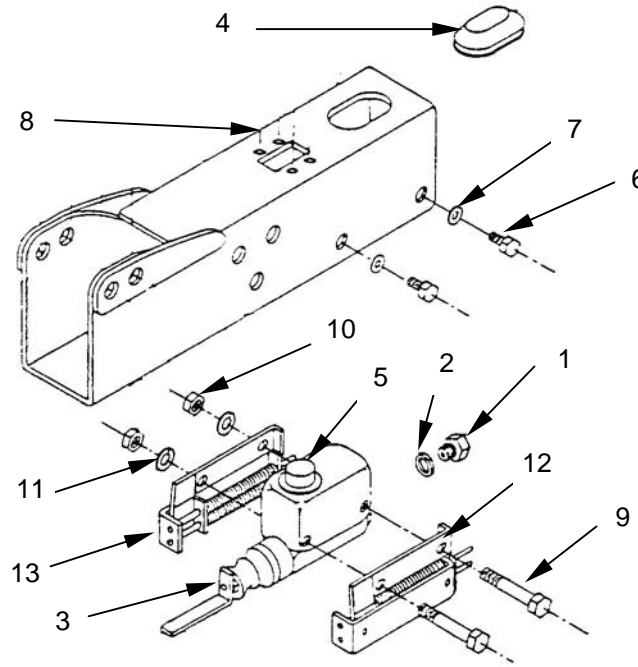

Figure 13. Master Cylinder
- f. Remove cylinder cover (**figure 13, item 4**).
- g. Unscrew cap (**figure 13, item 5**) from master cylinder.
- h. Loosen and remove mounting bolts (**figure 13, item 6**) and lockwashers (**figure 13, item 7**).
- i. Slide master cylinder assembly out from outer case (**figure 13, item 8**).
- j. Loosen and remove cylinder bracket mounting bolts (**figure 13, item 9**) nuts (**figure 13, item 10**) and lockwashers (**figure 13, item 11**).
- k. Remove left hand (**figure 13, item 12**) and right hand (**figure 13, item 13**) cylinder bracket from master cylinder.